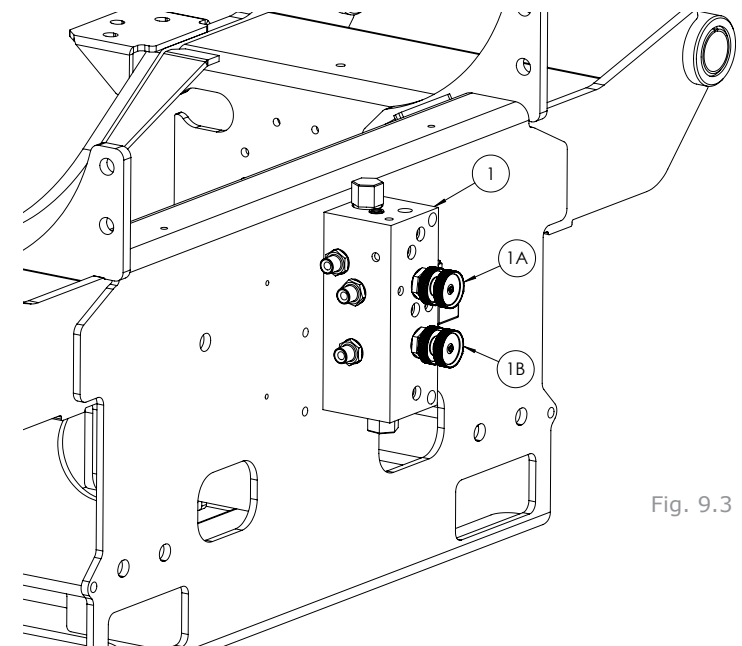

Fig. 9.3
For 1310 S & SM models the wrap arm and roller speeds are controlled by the valve (1) at the rear chassis, one knob (1A) controls the speed of the rollers (clockwise rotation reduced the speed) the second knob (1B) controls the speed of the wrap arm (clockwise rotation reduces the speed) (See Fig 9.3)